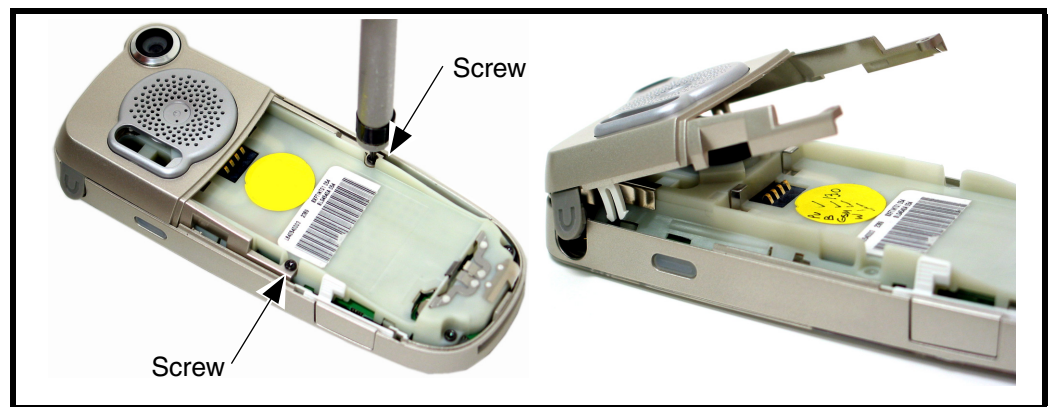

Figure 5. Removing the Rear Housing
2. Using the Torx driver and T-6 bit, remove the 2 screws shown in Figure 5. Set the screws aside for reuse.
3. Use the disassembly tool to release the latches along the phone. Lift the rear housing out of the back of the phone as shown in Figure 5.n the sides of the housing to release the boards if necessary.